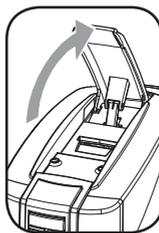

Fig. 1
- 2- Lift the capsule compartment opening lever (Fig. 1).